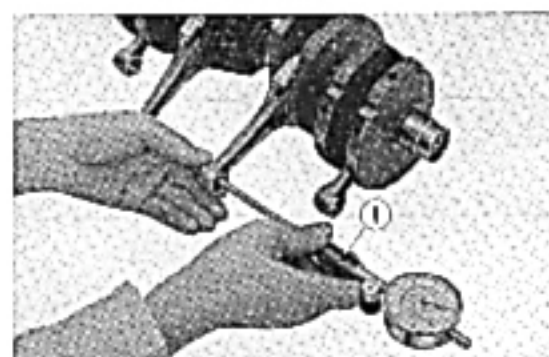

Fig. 150 (1) Inside dial gauge
3. Position the starting clutch and starter gear as in Fig. 150, then drive the primary shaft in from the right to left. Exercise care in the needle bearing assembly sequence shown in Fig. 165.